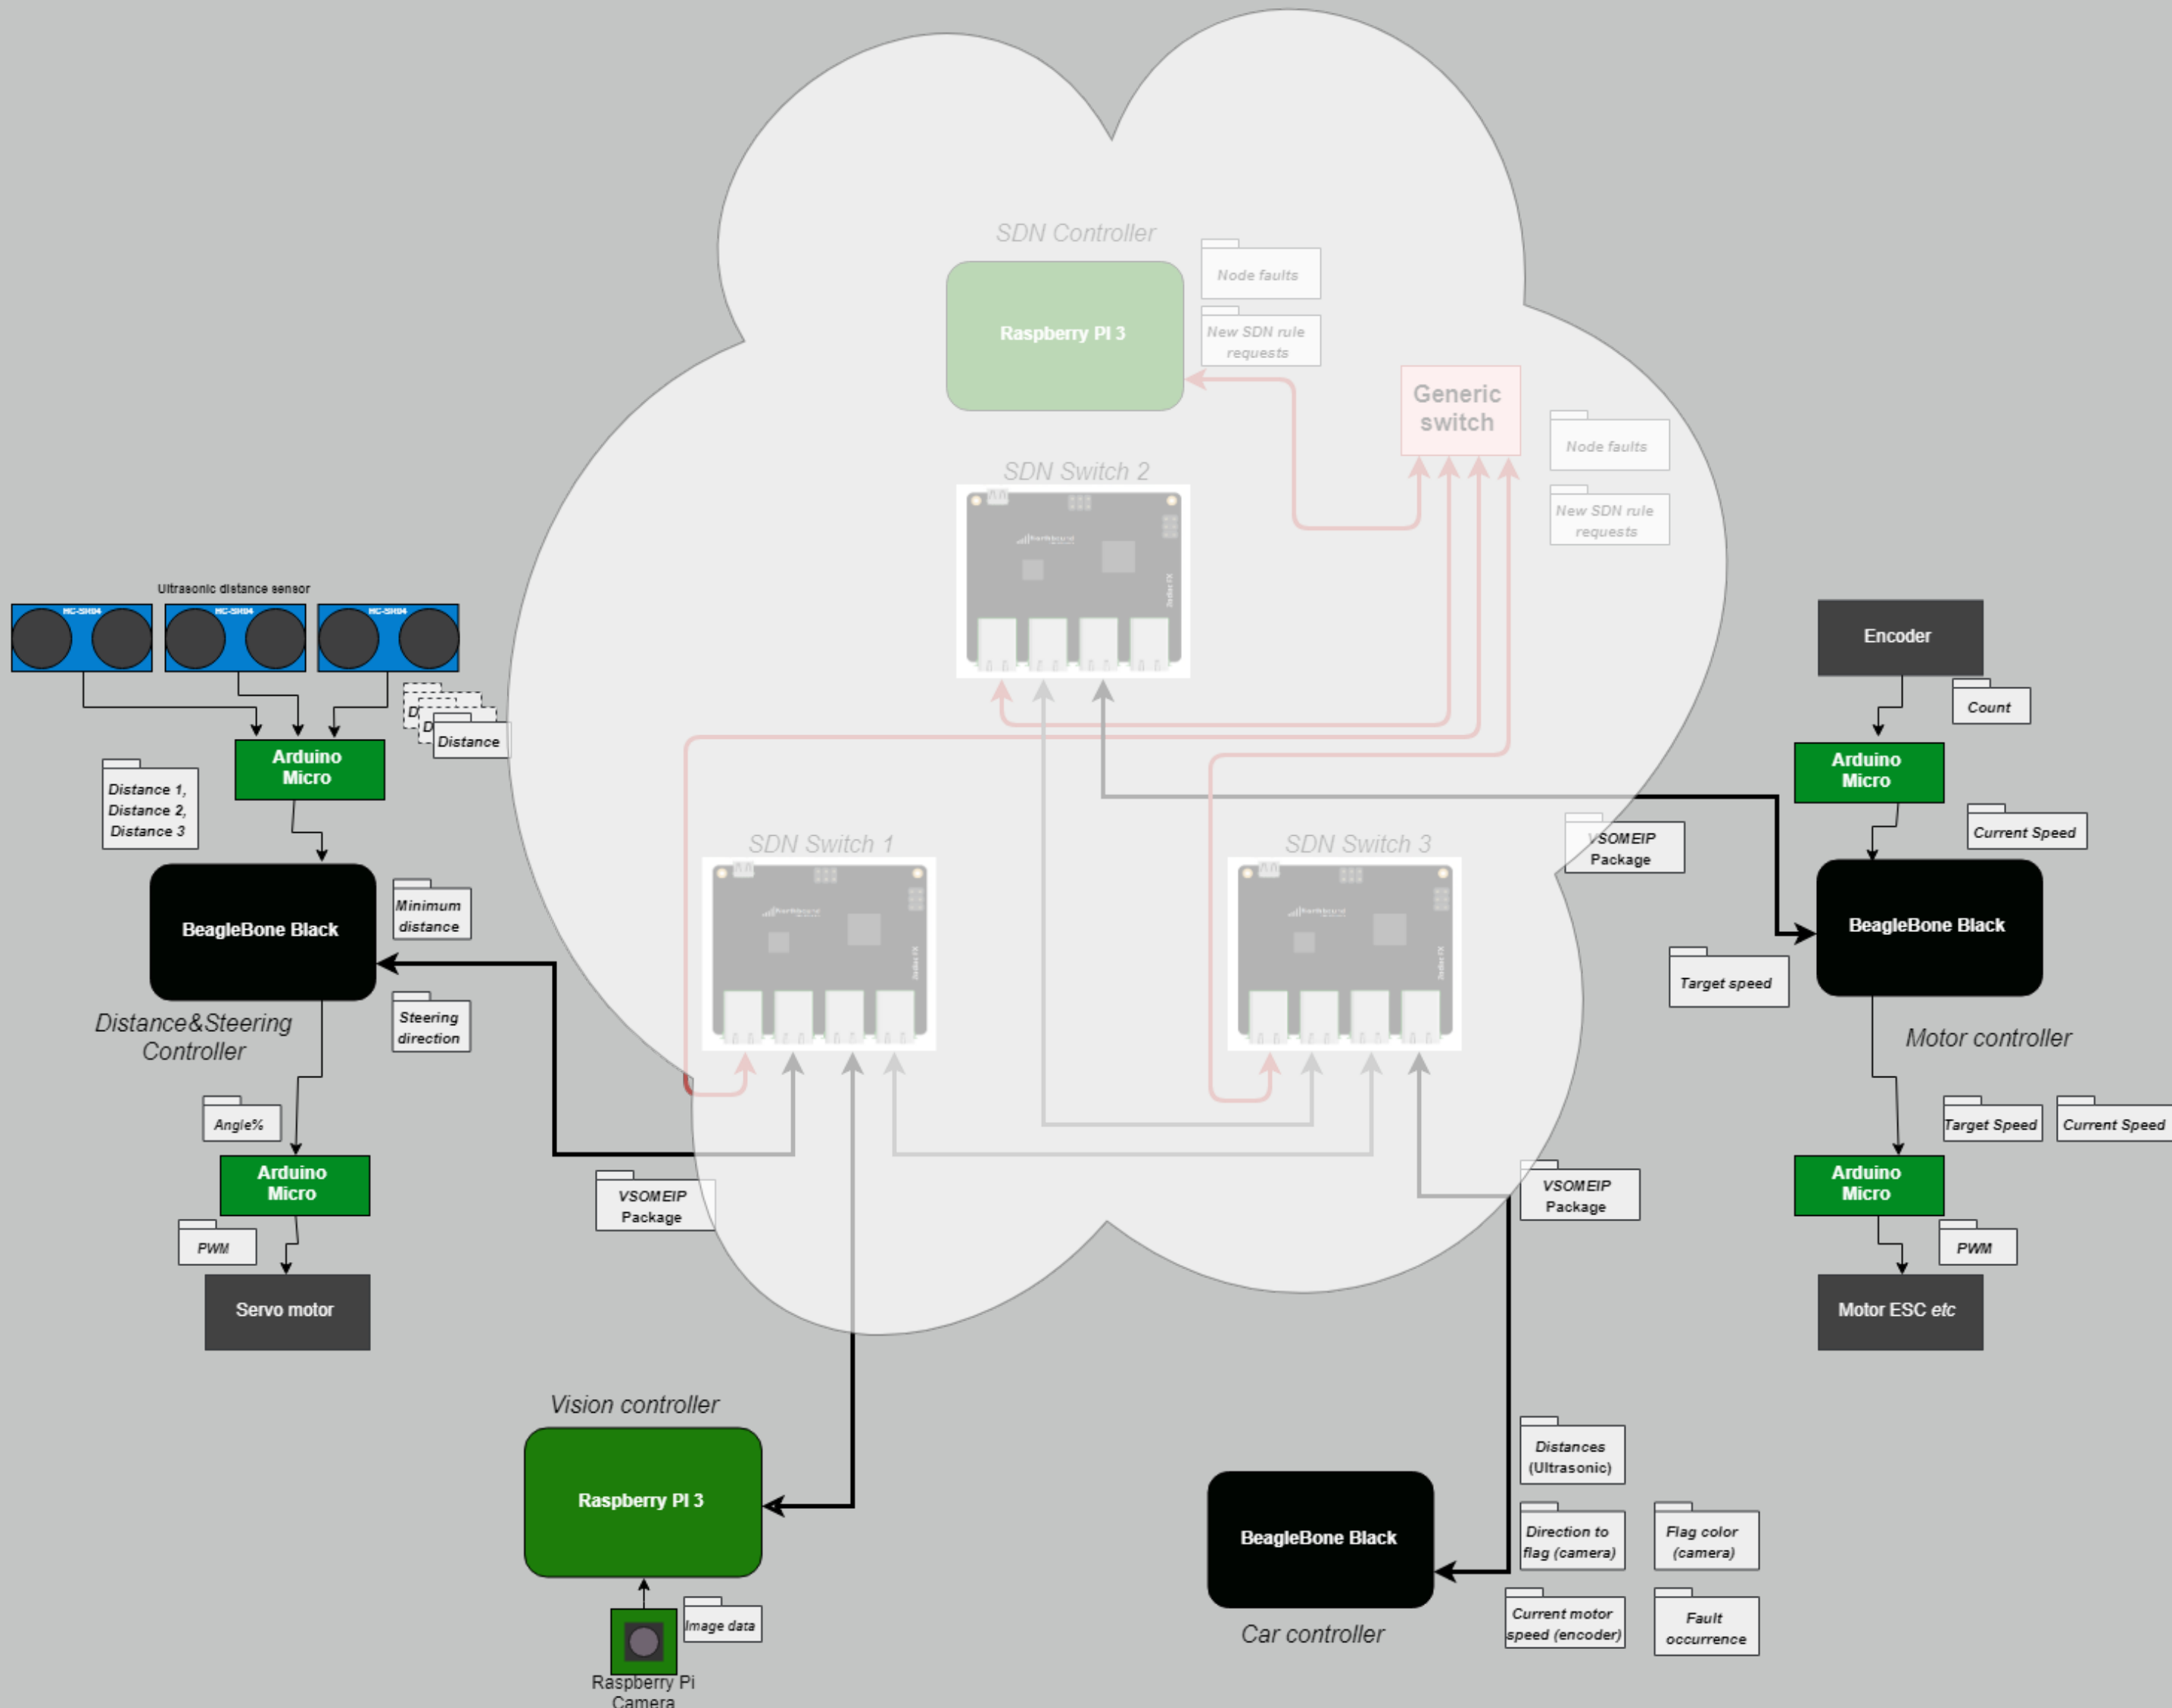

Figure 1: Network topology
- ▶ Three SDN enabled switches from Zodiac FX is used in this project and the network is configured according to the topology in figure 1. The controller is a Raspberry Pi model 3 that uses the RYU SDN framework to control the switches and to gather network information.
- ▶ The car was assembled with laser cut acrylic plastic, designed to secure the hardware on top of the frame. A test rig using the partially assembled car is shown in figure 1.